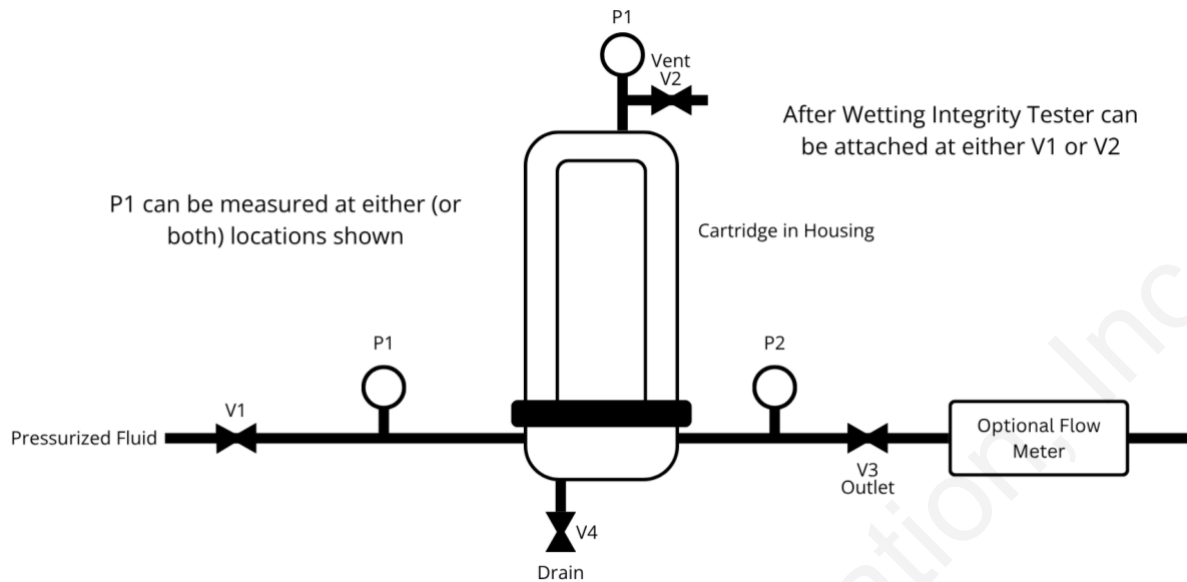

Figure 1: Cartridge Wetting
2. Set up the filter as shown in Figure 1. Make sure all valves are closed.